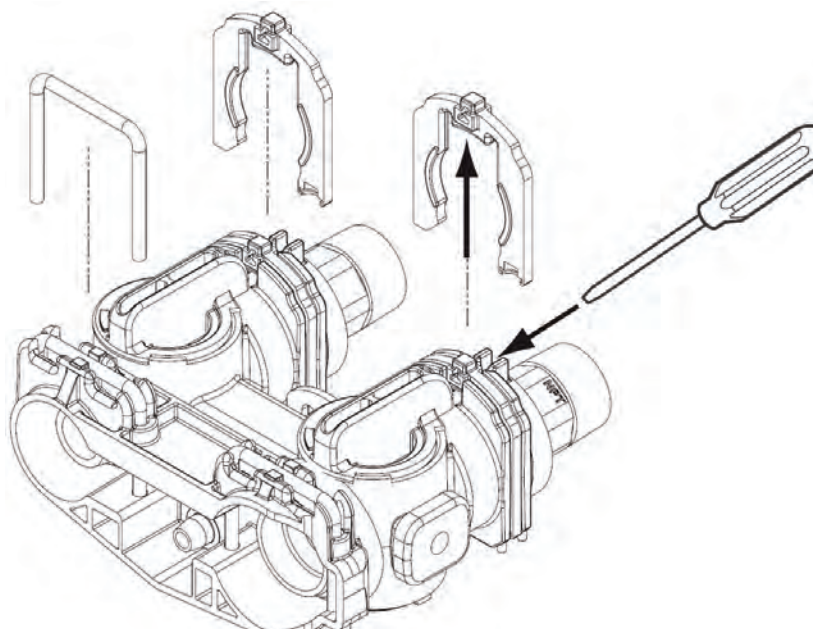

Figure 7 Connector Assembly
1. Locate parts and a roll of Teflo tape. The plumbing adapters should be removed (Figure 7 Connector Assembly).
3. Remove the clip by inserting a flat blade under the top center of the clip and lifting (prying up) (Figure 7 Connector Assembly).